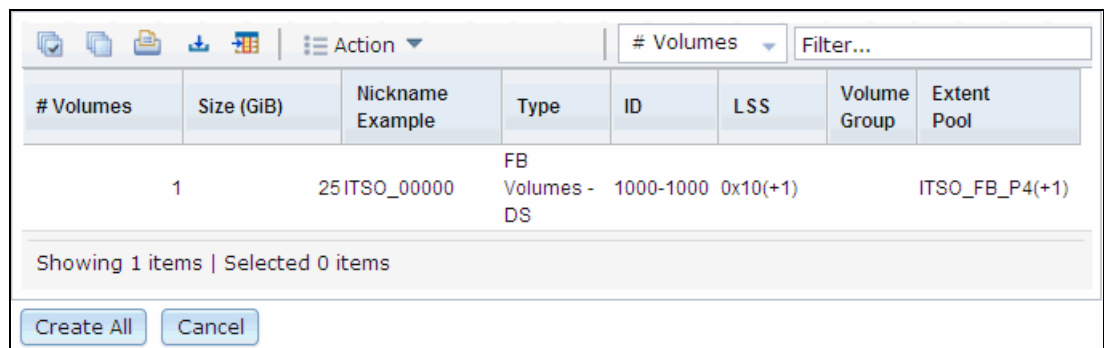

Figure 13-48 Create Volumes Verification window
7. The Create Volumes Verification window shown in Figure 13-48 opens, listing all the volumes that are going to be created. If you want to add more volumes or modify the existing volumes, you can do so by selecting the appropriate action from the **Action** drop-down list. After you are satisfied with the specified values, click **Create all** to create the volumes.